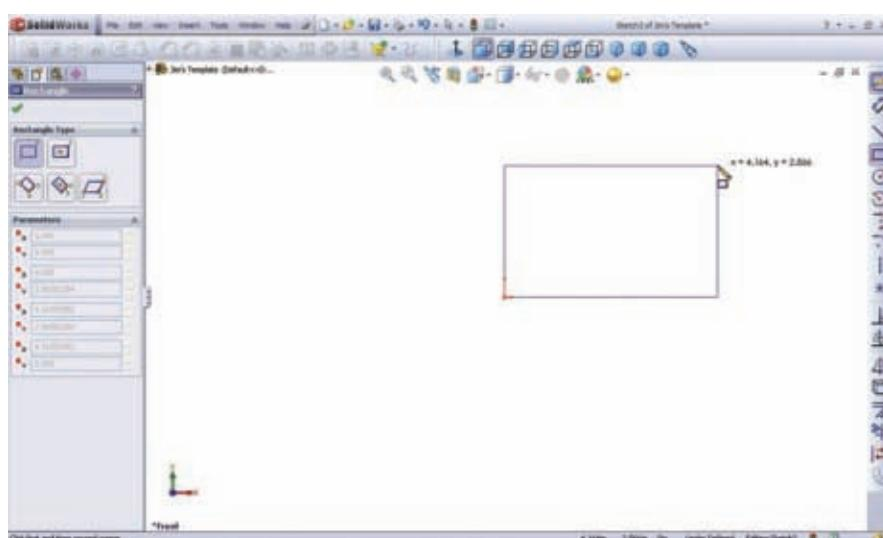

Figure 6-8 Starting at the origin, sketch a rectangle approximately the size of the adapter plate.
8. Develop the basic shape of the adapter plate. (see Fig. 6-8)